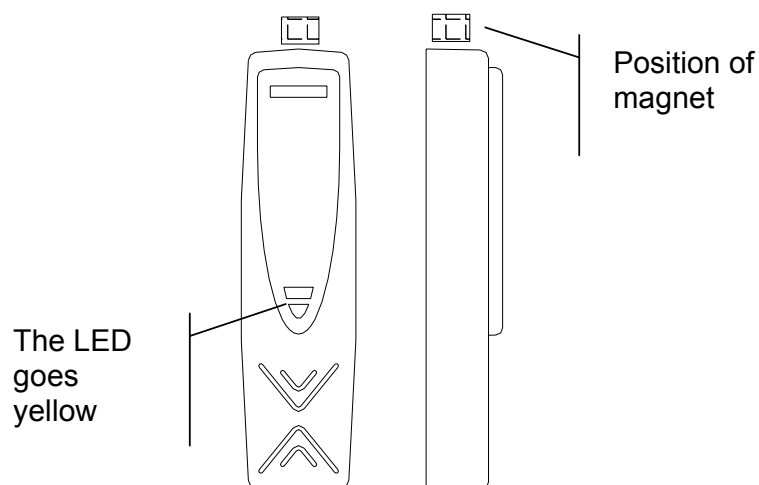

Figure 15: Calling the Service Pin Using a Magnet
To identify the node, you can call the service pin using the relay-reed found inside the device (see Figure 15). Use the following steps for this procedure:
1. Place a small magnet as indicated in Figure 15 to call the service pin. The signal is linked to the yellow service LED (at the center), which will blink throughout the operation.